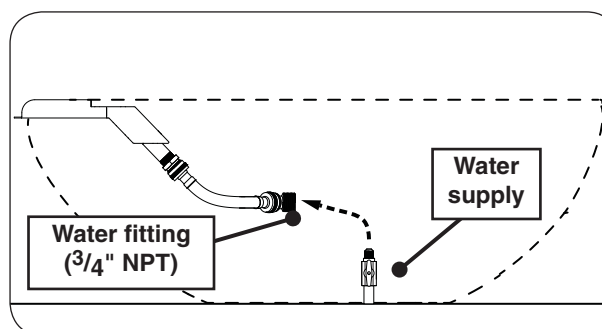

Fig. 24-2 Connect water supply (if applicable)
2. Plumb the water supply to the 3/4" NPT fitting (see Fig. 24-2).